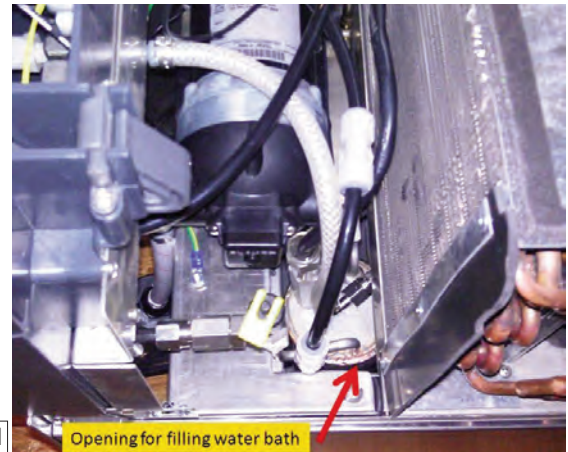

Figure 1
- C. Using a funnel or tube, fill the water bath compartment (Fig 1), with water until it flows out of the overflow tube into the drip tray.